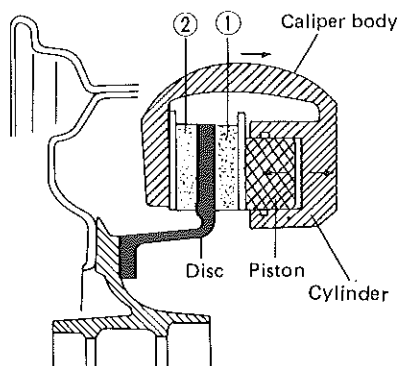

Fig. 18-8
As shown in Fig. 18-8, the pads apply pressure to both sides of the disc by means of oil pressure, and so effect braking on the wheels.
The single-piston floating-caliper type brake is employed in this model. One cylinder and one piston are used for this type. (The cylinder is constructed as a monoblock with the caliper.) Oil pressure generated in the cylinder causes the pad ① on the piston side to press against the disc. At the same time, the floating type caliper body is moved to the right by the cylinder pressure, as shown in Fig. 18-8, which pulls pad ② against the disc and so brakes the wheel.